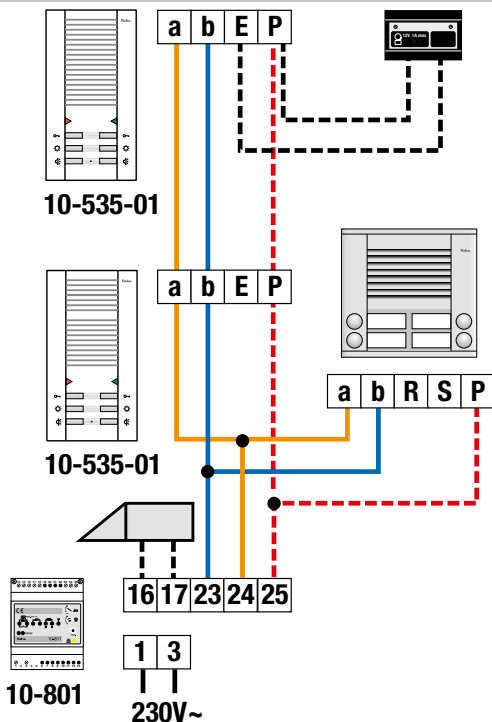
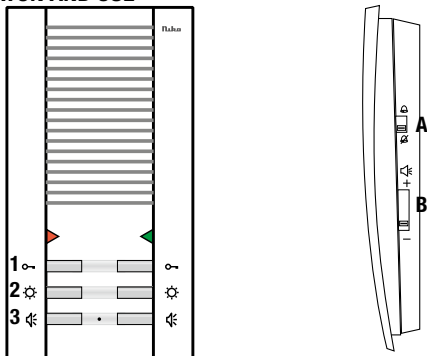

fig. 3: complete wiring diagram
fig.4: front view and side view of the internal unit
- Briefly press function key 3  to activate the door unit without the bell is rung. The door loudspeaker at the internal unit is activated and the green LED lights. The connection is wound up by briefly pressing function key 3 or after 60s of activity.
- Press the door open key (function key 1)  to open the lock (fig.4). On the power supply, you can set the activation time of the lock between 0,8s and 8s (see user manual power supply).
- Press the light switch key (function key 2)  to control the light switch relay on the power supply.
- If there is a call, the telephone rings once at the set tone (see 'Possible settings') and the green LED on the internal unit lights. Briefly press function key 3 to communicate with your visitor. If the visitor is hardly understandable due to background noises, just keep function key 3 pressed while you are speaking. Let go of the function key to let your visitor speak. The conversation is wound up by briefly pressing function key 3, automatically after 60s or 4s after opening the door. The green LED goes out if the conversation is wound up.
Switch selector switch A (fig.4) at the side of the internal unit to OFF  to switch off the ring tone on the internal unit. The red LED lights continuously in confirmation.
You can modify the volume of the ring tone at the internal unit by means of slide switch B at the side of the internal unit (fig.4).
You can connect a floor bell push button (a push button with N.O. contact e.g. 05-540) to the internal unit. Use terminals E and P of the screw connector (fig.3). Switch selector switch A to OFF and immediately back to ON to modify the ring tone on the internal unit. Briefly press function key 3. The red and green LED light. Then press function key 2 (fig.4) to hear the first ring tone. With each press on this function key, you hear the next ring tone in row. To select the desired ring tone, simply wait for both LEDs to go out ($\pm 8s$). The last heard ring tone is then set.